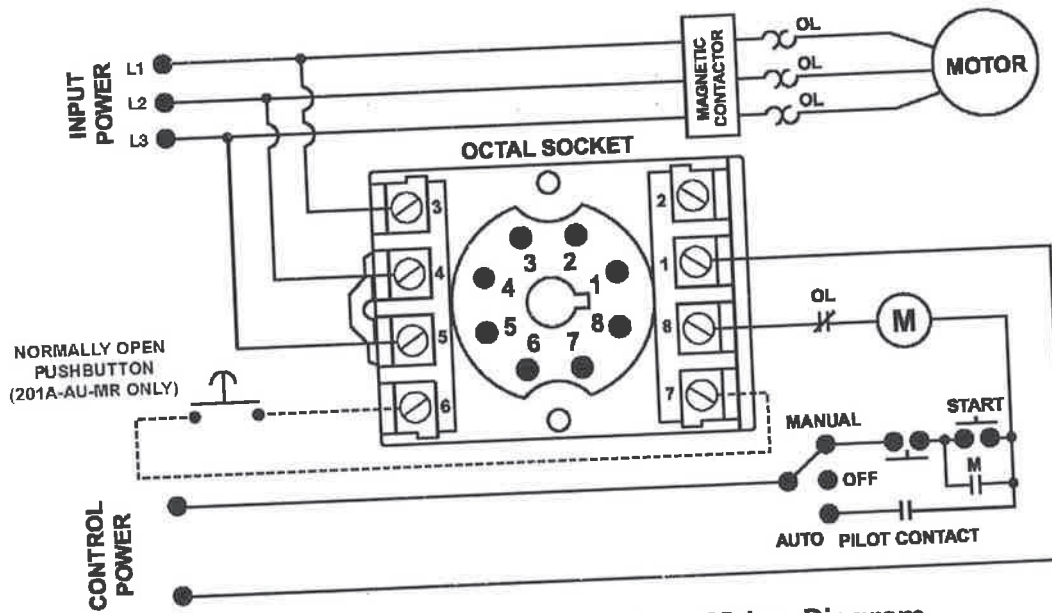

Figure 1. Typical Motor Control Wiring Diagram
2. Connect L1, L2 and L3 (Pins 3, 4 & 5) to the LINE SIDE of the motor starter (Figures 1 & 2).
3. Connect the output relay to the circuitry to be controlled. For motor control, connect the normally open contact in series with the magnetic coil of the motor starter as shown in Figure 1. For alarm operation, connect the normally closed contact in series with the control circuit as in Figure 2.
4. If a normally open (NO) pushbutton (not included) is used with a Model 201A-AU-MR, connect it between pins 6 and 7 (see Figures 1 & 2).
The Model 201A-AU-MR operates the same as the Model 201A-AU but offers an external manual reset option. The RESTART (SEC) knob must be set to **M** to operate in manual reset mode. The MotorSaver[®] can be reset by turning the restart delay knob out of the manual position **or** by pressing a normally open (NO) pushbutton connected between terminals 6 and 7 (see Figures 1 and 2).